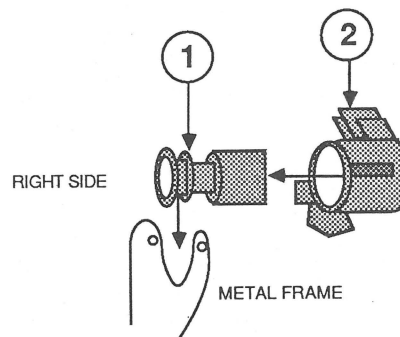

FIGURE 38
3. Position the platen bushing (Figure 38, #1) into the frame on the right side of the printer. Slide the free lever (Figure 38, #2) onto the bushing.